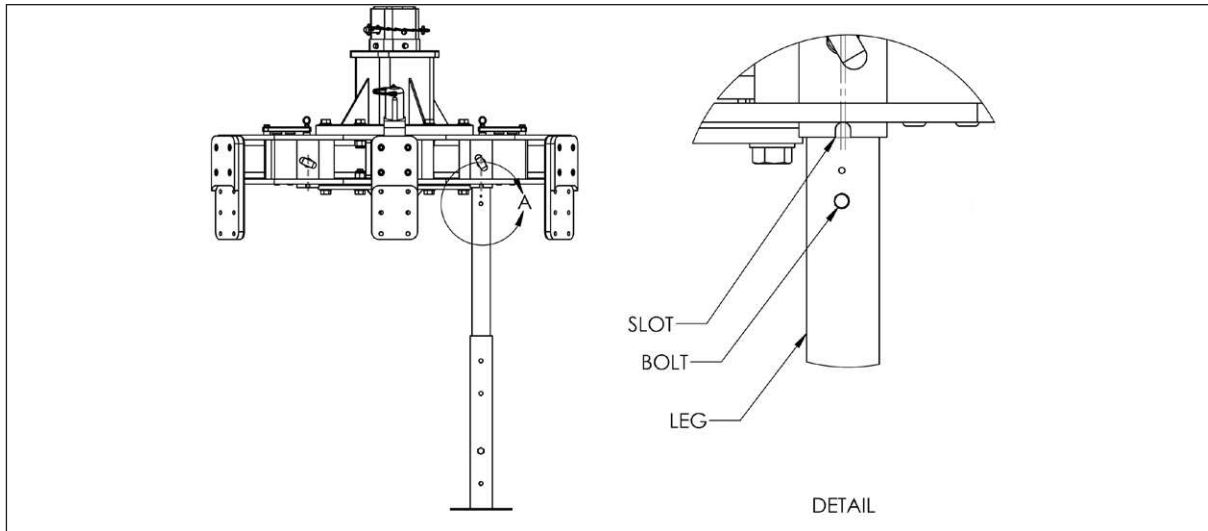

Figure 9. Close Up Of Bolt On Supporting Leg
9. Line up the bolt head with the slot in the leg sleeve, as shown in Figure 9.